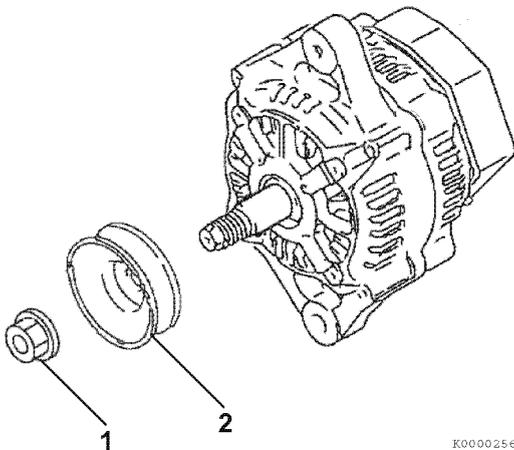

Figure 12-19
11. Reassemble the pulley (2, Figure 12-19) and nut (1, Figure 12-19) to the shaft of the rotor assembly. Tighten the nut.